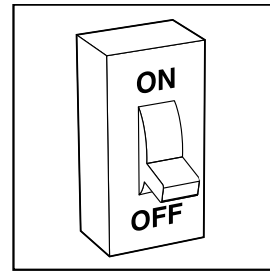

Fig. 6 – Turn Off Electrical Supply
3. Turn OFF electrical supply to the furnace. See Fig. 6.
- Turn off electrical supply to the furnace. (See Fig. 6.)